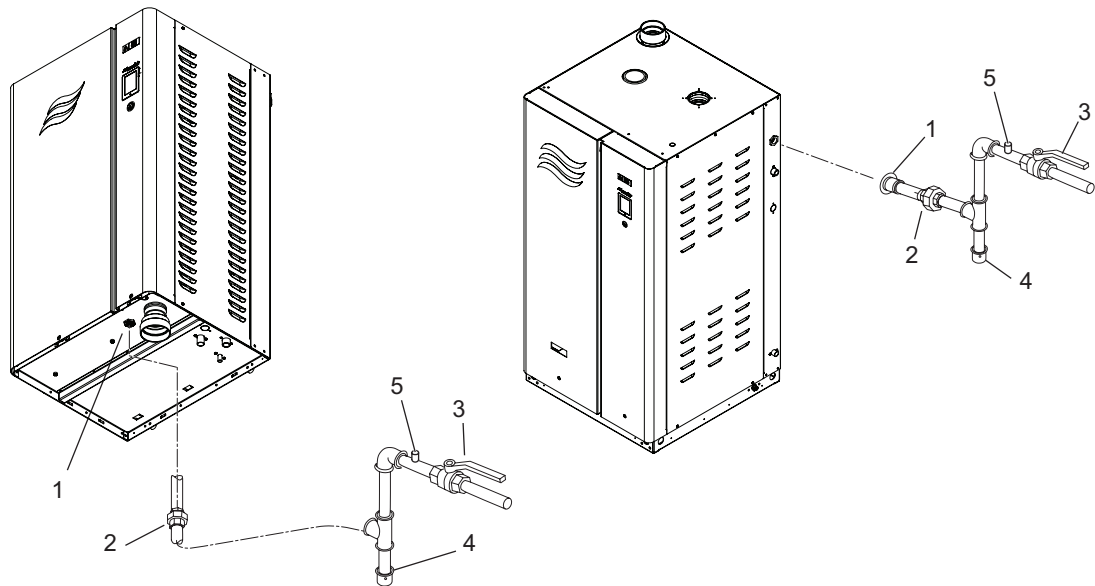

Figure 22: Gas Connection
- A certified manual gas shutoff valve must be installed immediately upstream from the humidifier. Refer to Figure 22. Thermally actuated gas shut-off device may also be installed upstream from the humidifier. Install the device following all local codes and regulations.